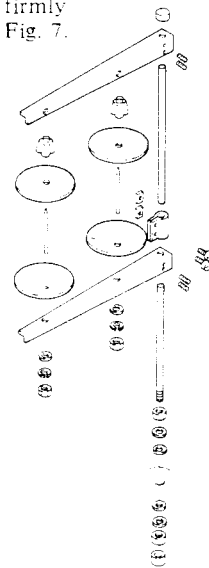

Fig. 7
- Fasten thread unwinder firmly to the table as shown in Fig. 7.